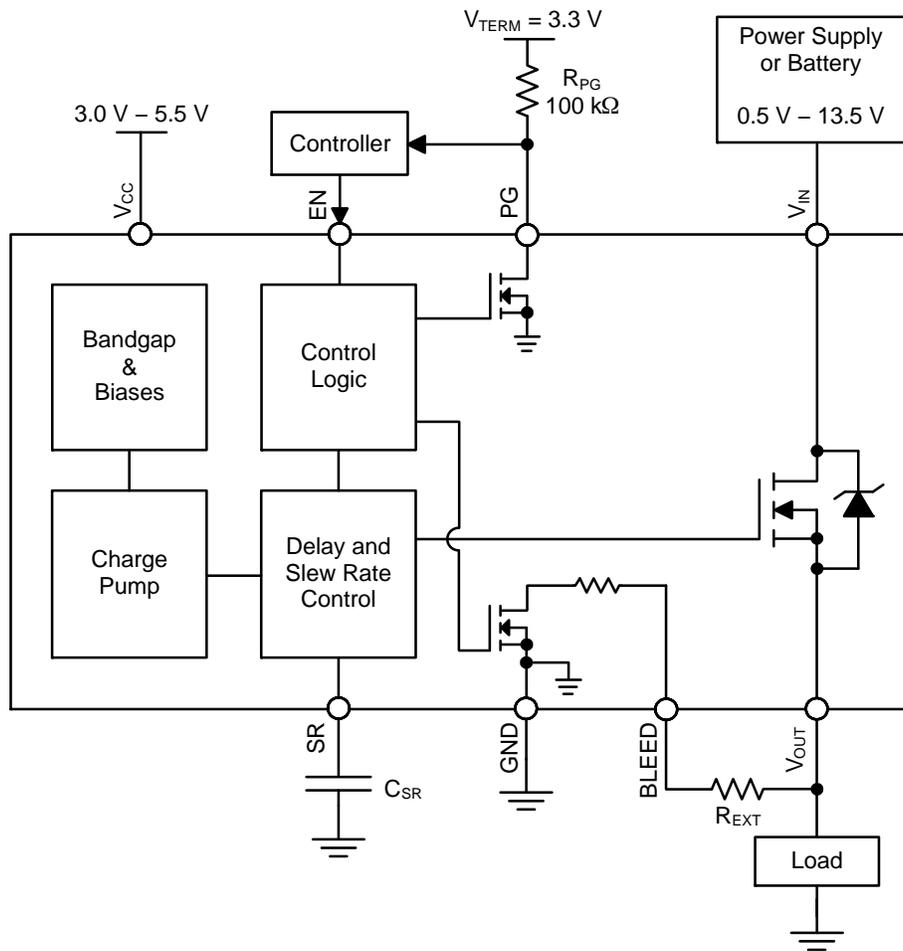
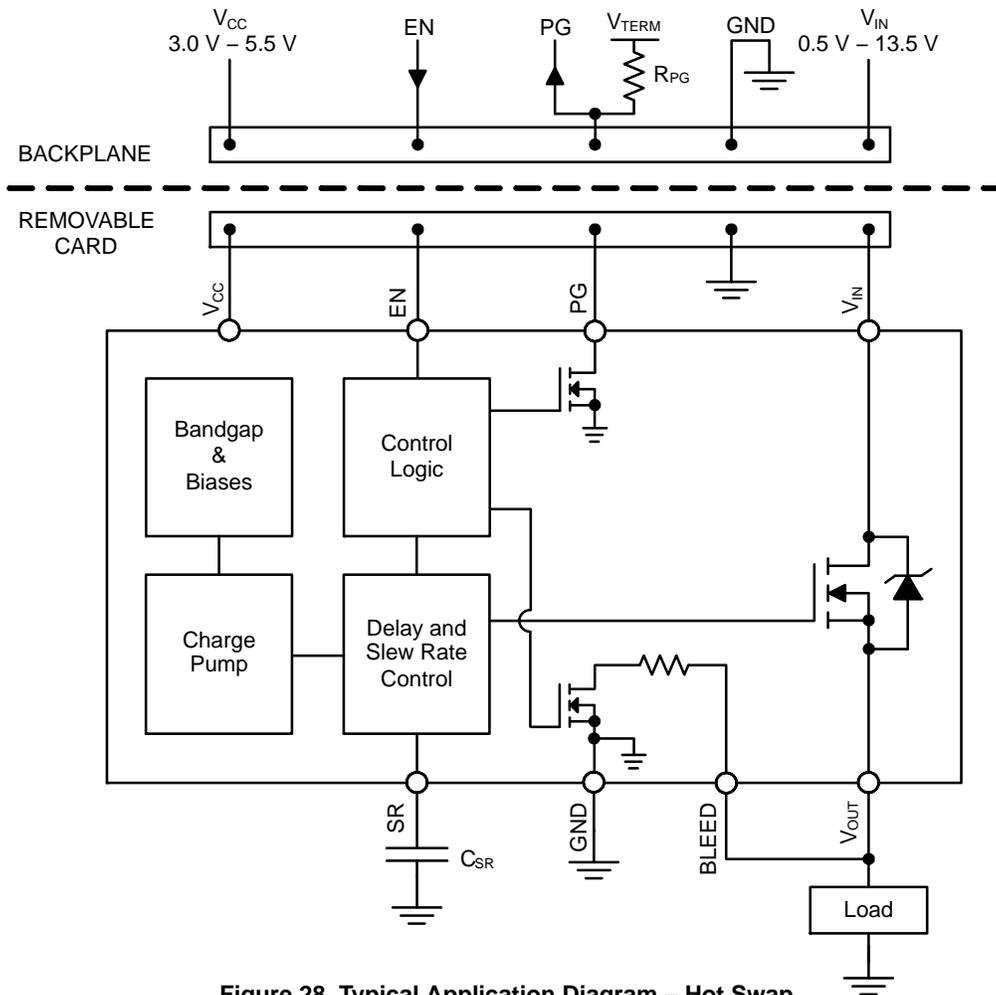

Figure 27. Typical Application Diagram – Load Switch
Figure 28. Typical Application Diagram – Hot Swap
It is required that the BLEED pin be connected to  $V_{OUT}$  either directly (as shown in Figure 28) or through an external resistor,  $R_{EXT}$  (as shown in Figure 27).  $R_{EXT}$  should not exceed 100 M $\Omega$  and can be used to increase the total bleed resistance and decrease the load bleed rate.
The NCP45541 devices have a power good output (PG) that can be used to indicate when the gate of the MOSFET is fully charged. The PG pin is an active–high, open–drain output that requires an external pull up resistor,  $R_{PG}$ , greater than or equal to 1 k $\Omega$  to an external voltage source,  $V_{TERM}$ , compatible with input levels of other devices connected to this pin (as shown in Figures 27 and 28).
The slew rate can be decreased with an external capacitor added between the SR pin and ground (as shown in Figures 27 and 28). With an external capacitor present, the slew rate can be determined by the following equation: